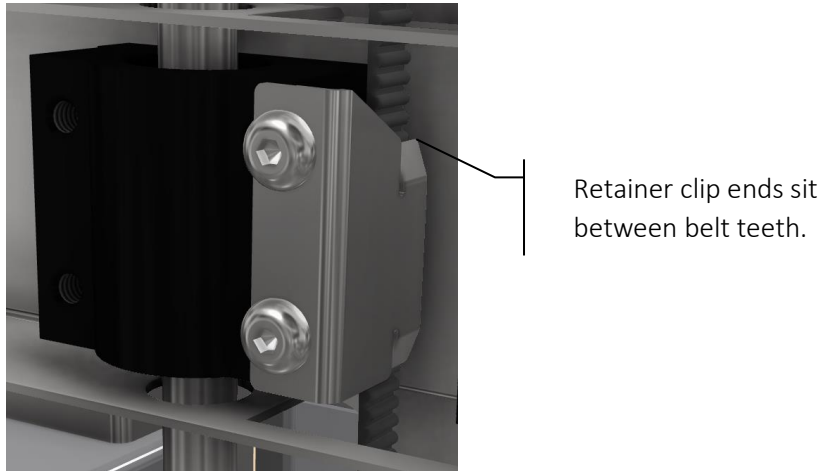

Figure 52: Retainer Clip
The retainer clip is held on with two (2) screws, see **Figure 52: Retainer Clip**.